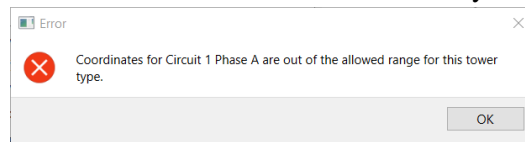

Figure 3: Error Message
- ii. Depending on the restrictions of the selected tower type, when the coordinates are entered incorrectly, the program gives an error message as to which coordinate was entered incorrectly. It can be seen in Figure 3.